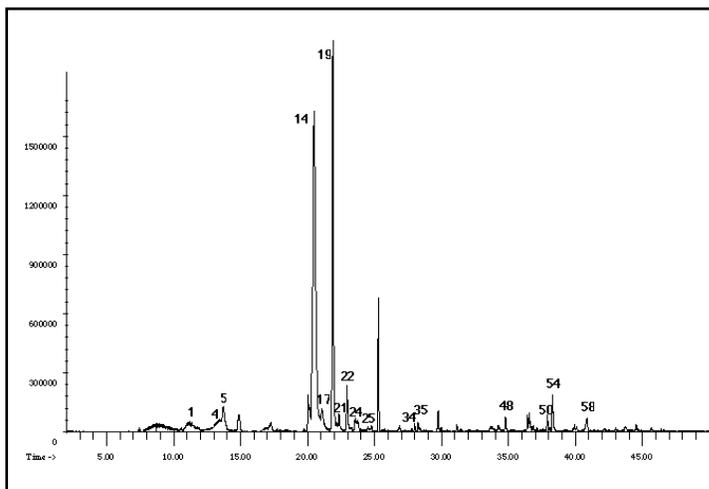
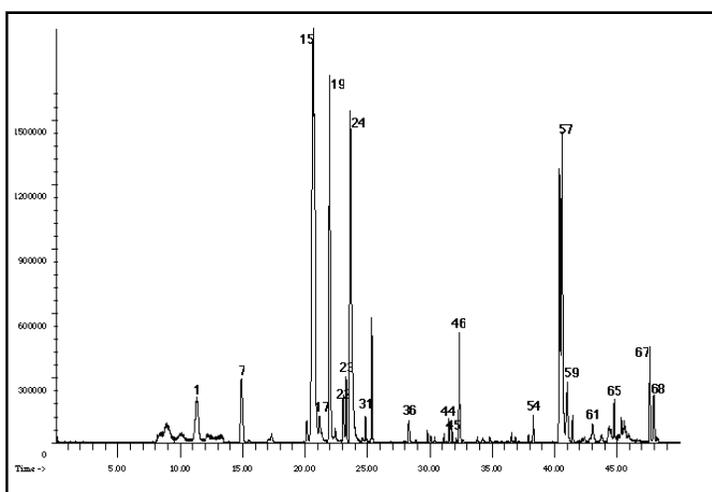
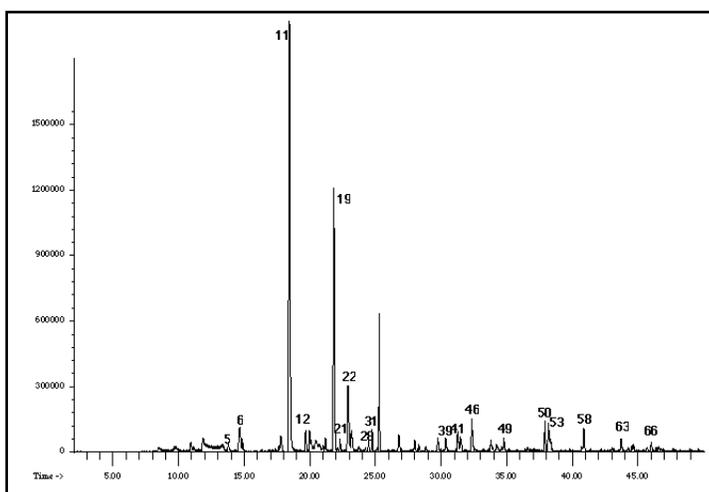

Figure 5. *Lactarius* - 1.903 g. Collected for 35 min at 90°C at 20 ml/min with 25 ml/min dry purge. Thermally desorbed at 250°C for 5 min.
Figure 6. *A. campestris* - 1.906 g. Collected for 35 min at 90°C at 20 ml/min with 25 ml/min dry purge. Thermally desorbed at 250°C for 5 min.
Figure 7. *Calvatia* - 1.417 g. Collected for 35 min at 90°C at 20 ml/min with 25 ml/min dry purge. Thermally desorbed at 250°C for 5 min.
characteristic aroma of the mushroom. Phenylacetaldehyde which appears to be an important flavor compound was present in each of the mushrooms except for *A. bisporus* (**Figs. 2,3,5-7**). The flavor compound benzaldehyde was also detected in *Portabella* as well as *A. bisporus* (**Figs. 3&4**). *Lactarius* sp. contained a high concentration of the aliphatic compound 1-octen-3-ol (**Fig. 6**). 3-Octanone was also found in the *Shiitake*, *Portabella* and *A. bisporus* mushrooms (**Figs. 3&4**). The presence of 1-octen-3-ol and 3-octanone suggests that the activity of lipoxygenase and hydroperoxide lyase producing C8 compounds from linoleic acid was stronger in these mushrooms (4). 1-Methyl-1H-pyrrole which was detected in *Shiitake* was the only nitrogenous compound identified (**Fig. 2**). 2-formylpyrrole has also been found in the pentane extract of dried *Boletus edulis* (5) and in liquid cultures of *Polyporus tuberaster* (4). This nitrogen compound has been identified in cocoa and bread and may be produced by nonenzymatic browning reactions. In addition, the sulfur compounds 1,2,4-trithiolane, 1,2,4,6-tetrathiepane and dimethyl disulfide were identified in *Shiitake* (**Fig. 2**). This suggests that they were produced by chemical reactions in which one reactant was an amino acid containing sulfur. The meadow mushroom *A. campestris* and the giant puffball *Calvatia* were found to contain high concentrations of phenol (**Fig. 5**) and methoxybenzene (**Fig. 7**), respectively. Although similar to the button mushroom, *A. bisporus*, found at the grocery store, the meadow mushroom is far richer in flavor. It